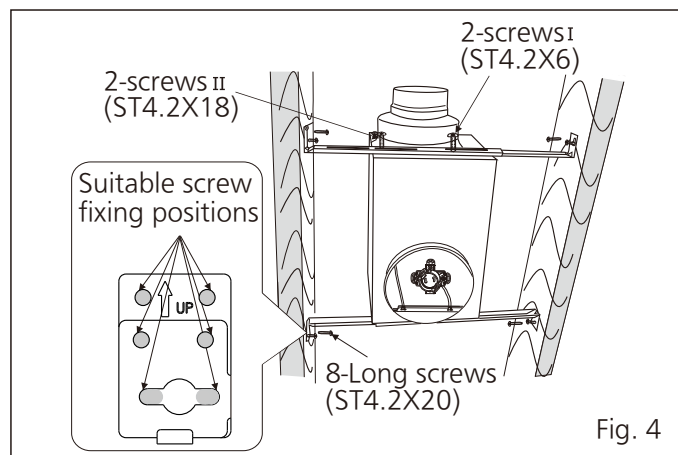

Fig. 4
5. Hang the fan body down from the four long screws, and adjust the suspension brackets if necessary. Then, tighten the four long screws up. And that, fix the other four long screws (ST4.2X20) to other holes. Make sure the fan body is level and square with the joists. (Fig. 4)
6. Tighten the two screws I (ST4.2X6) up (Except that the spacing is 12 inches between joists.). Then secure suspension bracket I and II to the fan body with screws II (ST4.2X18). (Fig. 4)